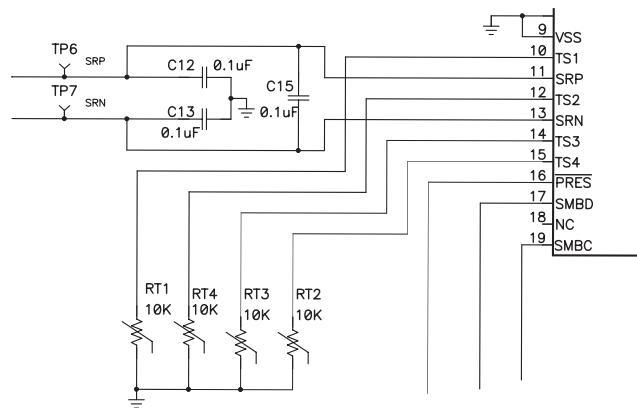

Figure 18. Thermistor Drive
For the bq3050 device, TS1 and TS2 provide thermistor drive-under program control (Figure 18). Each pin can be enabled with an integrated 18-k Ω (typical) linearization pullup resistor to support the use of a 10-k Ω at 25°C (103) NTC external thermistor, such as a Mitsubishi BN35-3H103. The reference design includes two 10-k Ω thermistors: RT1 and RT2.